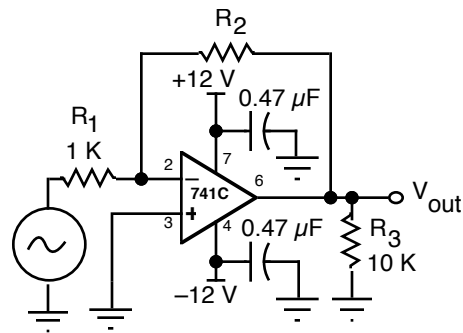

Fig 6.5
e) *Slew Rate*. (optional) Connect the circuit of Fig 6.5 choosing R_2 between 100 k Ω and 1 M Ω . Measure the slew rate of the 741C op amp and the FET input op amp.